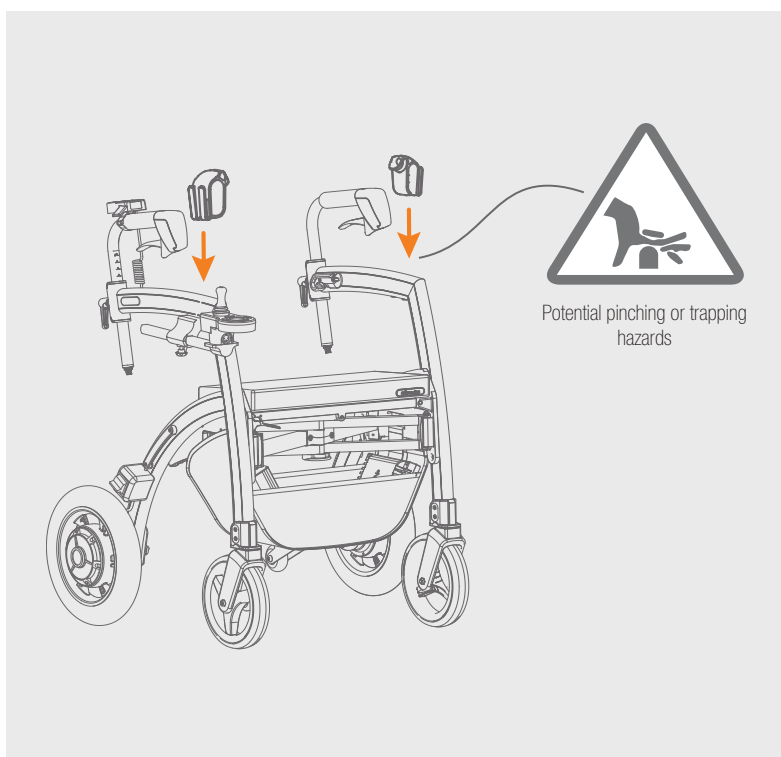

Figure 52: Attach the 3-in-1 holder.
- Attach the holders by pressing them down onto the frame **(Figure 52)**.